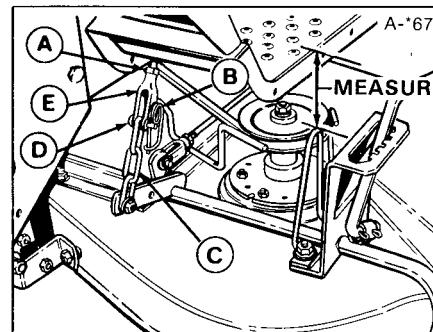

Figure 38. Lift Assembly - Small Lift
2. Measure the distance between top of upstop bracket and bottom of footrest (figure 38). The measurement should be $2\frac{13}{16}$.
3. To adjust, disconnect clevis (E) from chain. Loosen nut (A) and turn clevis to raise or lower mower. Re-connect chain to check measurement. When correct, tighten nut against clevis.